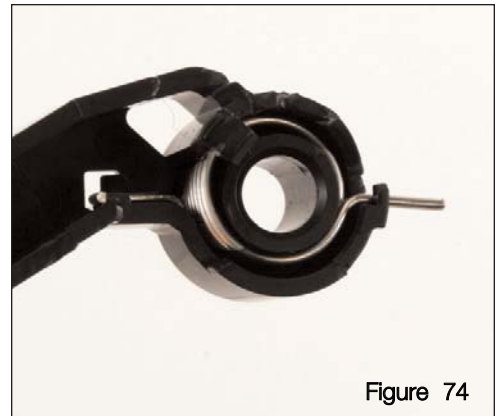

Figure 74
4. Make sure that the drum shutter actuator spring is positioned correctly as shown in Figure 74. Reinstall the drum shutter actuator arm to the hopper as shown in Figure 75.